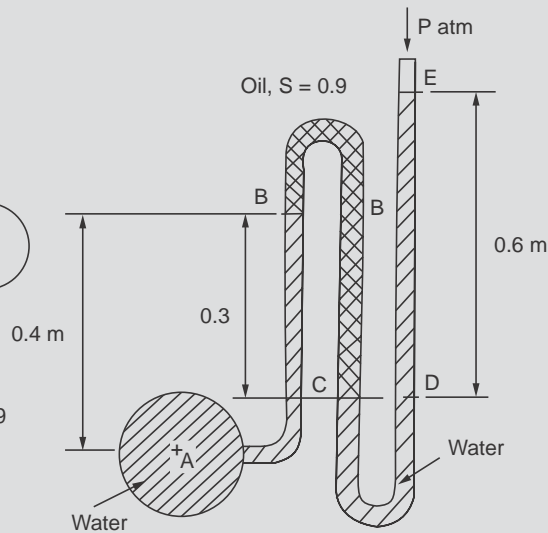

Figure Ex. 2.8
**Example 2.8.** A multiple U-tube manometer is fitted to a pipe with centre at A as shown in Fig. Ex.2.8. Determine the pressure at A.